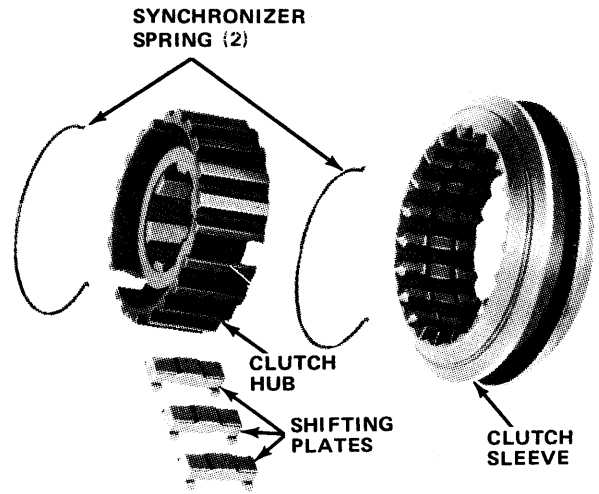
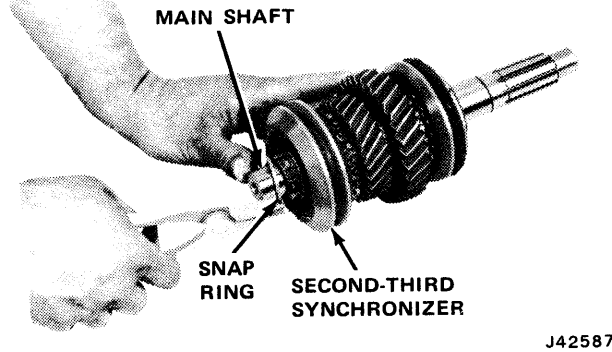
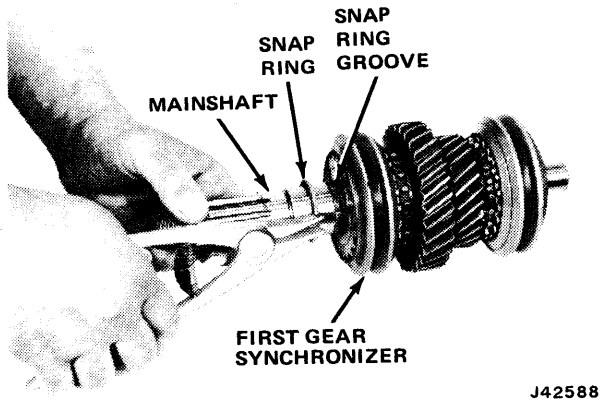

Fig. 6-25 Second-Third Synchronizer Assembly
Fig. 6-23 Second-Third Clutch Hub Snap Ring Removal—Installation
Fig. 6-24 First Gear Synchronizer Hub Snap Ring Removal—Installation
(1) Remove second-third synchronizer retaining snap ring and remove synchronizer assembly (fig. 6-23).
(2) Remove second gear and blocking ring.
(3) Remove reverse gear.
(4) Remove first gear clutch hub retaining snap ring and remove first gear synchronizer assembly (fig. 6-24).
(5) Remove first gear and blocking ring.
(6) Remove synchronizer springs from second-third synchronizer assembly (fig. 6-25). Mark synchronizer sleeve and hub for assembly reference and remove sleeve and shifting plates from hub.
(13) Install first gear clutch hub snap ring (fig. 6-24).
(14) Install second gear and blocking ring on main shaft.
(15) Assemble second-third synchronizer assembly (fig. 6-25). Align sleeve and hub using alignment marks made at disassembly. Install shifting plates and insert springs. Be sure insert springs are installed with open ends opposite one another or approximately 120° apart.
(16) Install second-third synchronizer assembly on main shaft and install synchronizer snap ring and blocking ring.